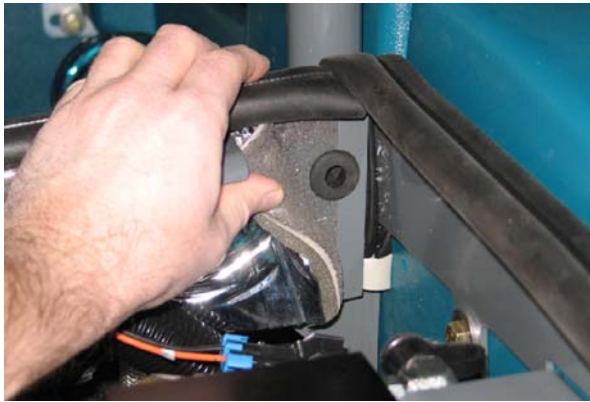
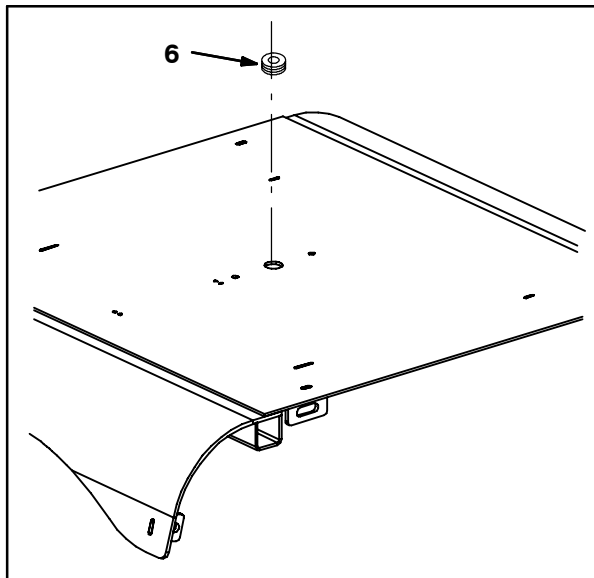

FIG. 3
FIG. 4
2. Insert a grommet (6) into the hole in the operator compartment panel (Fig. 3) and the hole on top the overhead guard (Fig. 4).